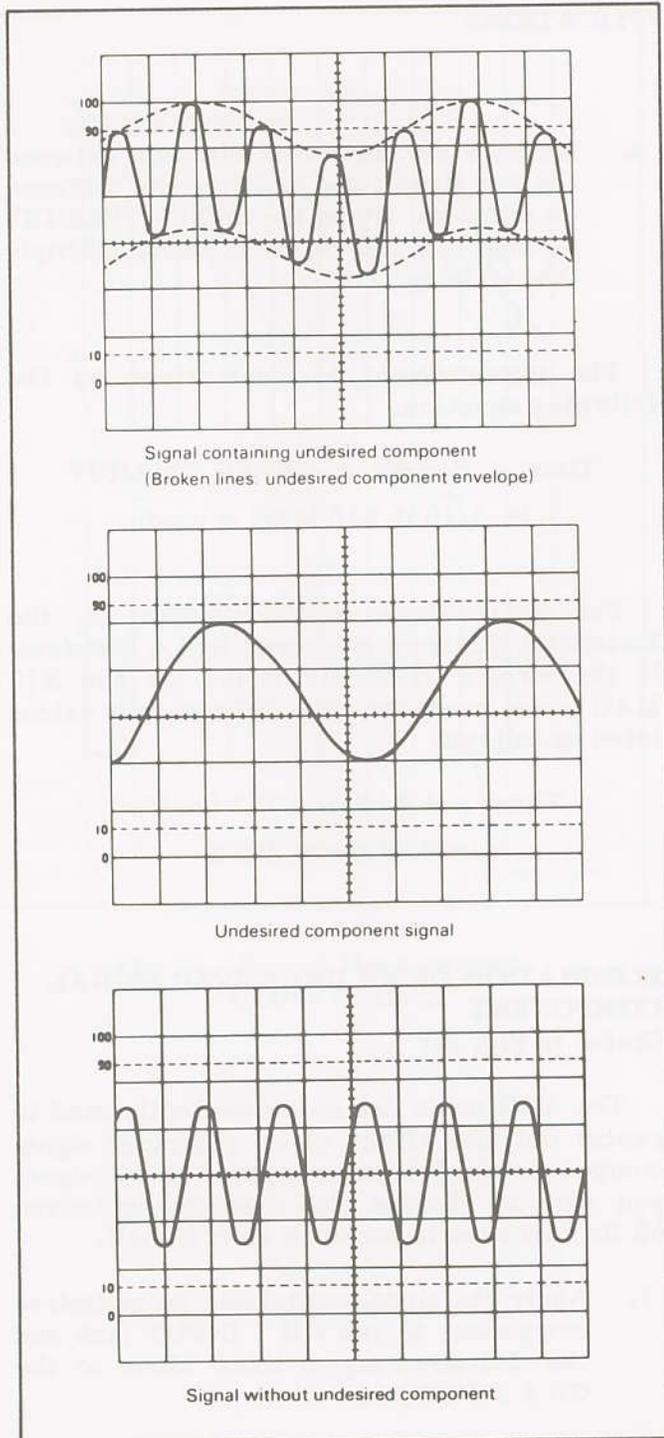

Fig. 14. Eliminating An Undesired Signal Component.
(Refer to Fig. 14)
2. Set the MODE switch to CHOP and the SOURCE switch to CH 2. Adjust controls to display two signals, such as shown in Fig. 14. Verify that the channel 2 trace represents the unwanted signal in reverse polarity. The polarity may be reversed by pressing CH 2 INV.